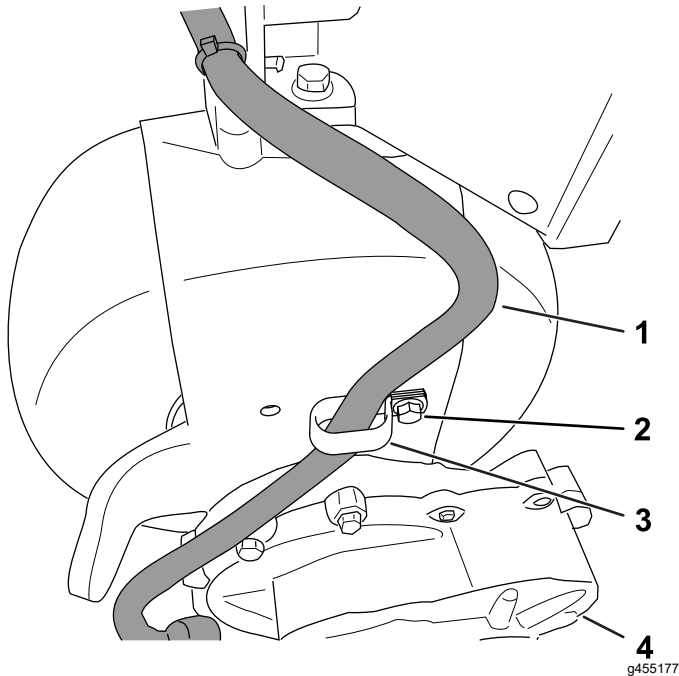

Figure 5
2. Route the gearbox wire harness toward the hood and secure it with the R-clamp as shown in Figure 5.